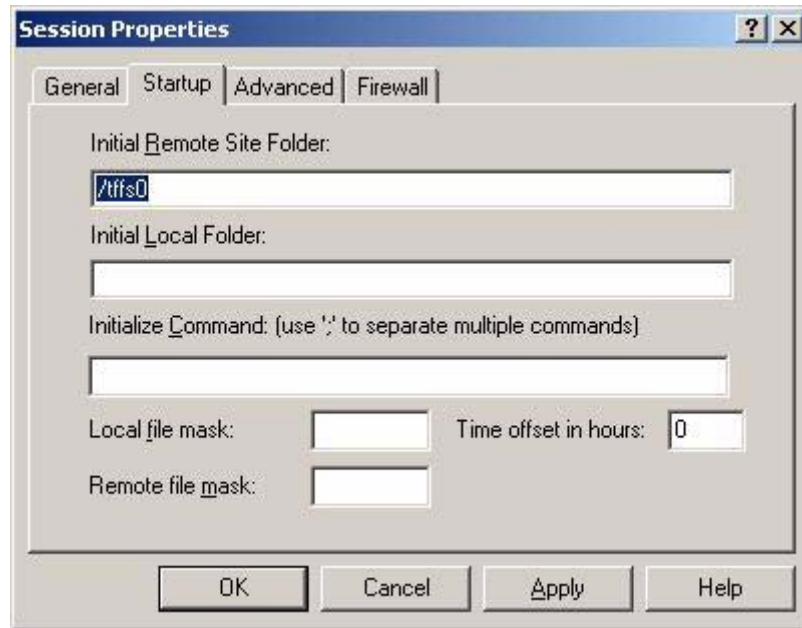

Figure 5-10 Startup session page - WSC upgrade
2. Copy the following new Build files to the PM 5000 WSC Card in “/tffs0” folder. Figure 5-10 displays this startup session page. Click on **OK**. The WS_FTP screen opens.